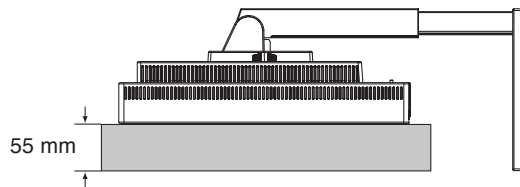

Figure S.1
3. Place monitor face down on a non-abrasive surface. (Place the screen on a 55 mm/ 2.2 inch platform so that the stand is parallel with the surface.) (**Figure S.1**)